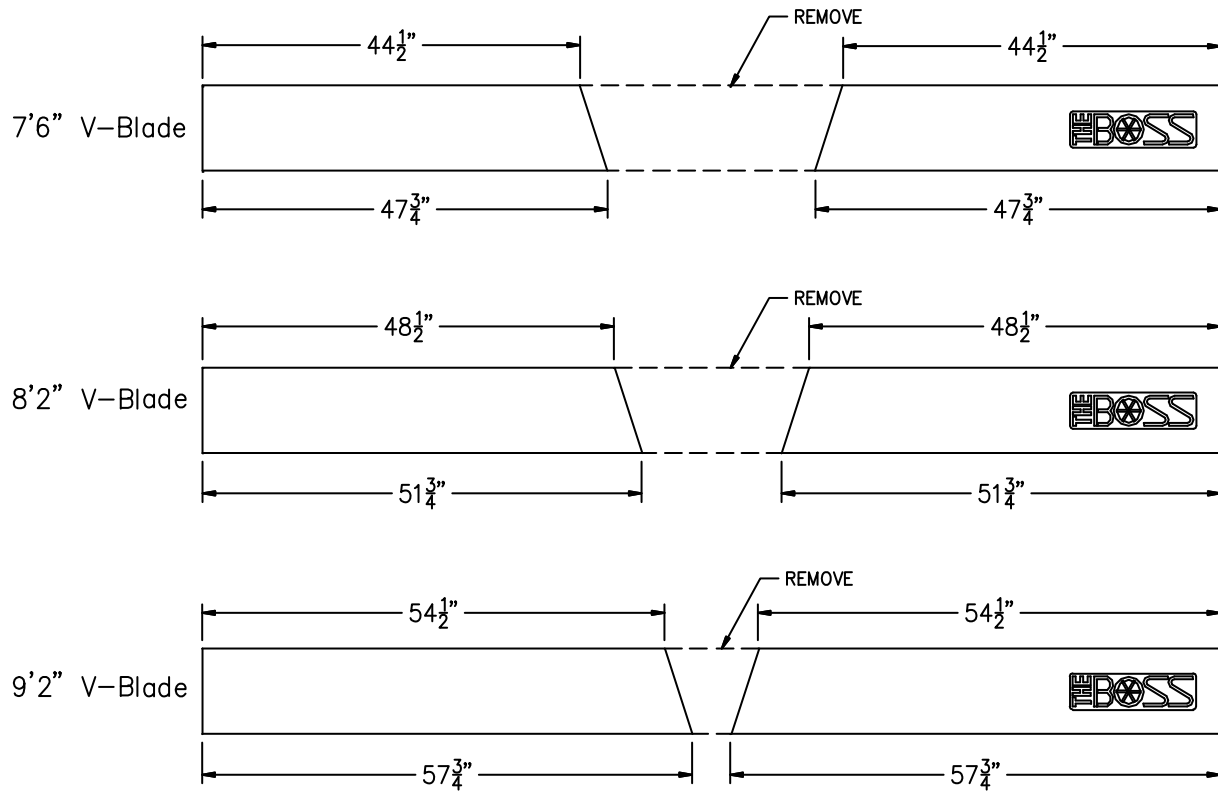

Figure 2. Belting Dimensions for V blades
- 1)** Cut **MSC04058** Belting (1) into two pieces. Use the dimensions specified in Figure 2 for your plow.